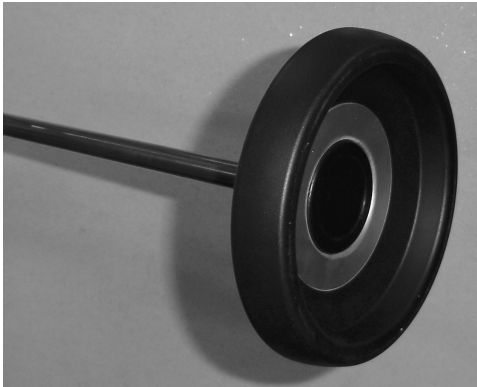

Fig 1. Hand Winding Device
4. Locate the hand-winding device (black moulded wheel with steel shaft, see fig.1).